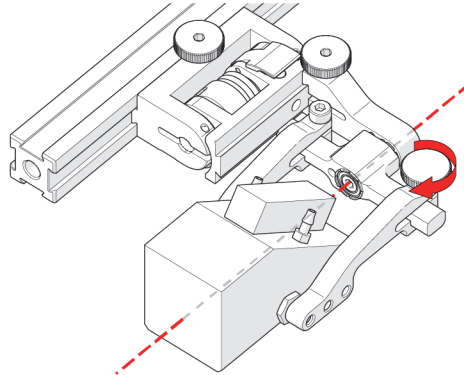

Figure 2-30 Pinch wedge with arm
10. Tighten the probe holder arm adjustment knob (see Figure 2-30 on page 58).